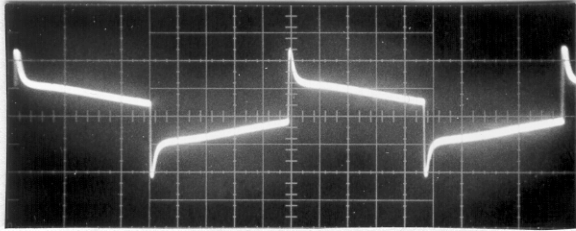

Fig. 1. Tones Center, Filters Off.
- 4) Look at output, compare to figure 1.